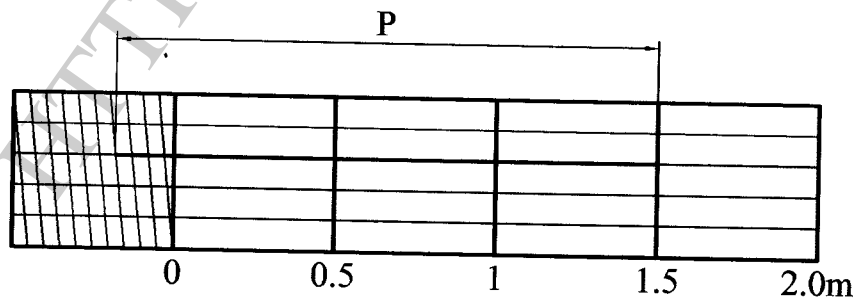

Figure 3
- 8 **Figure 3** shows a diagonal scale.